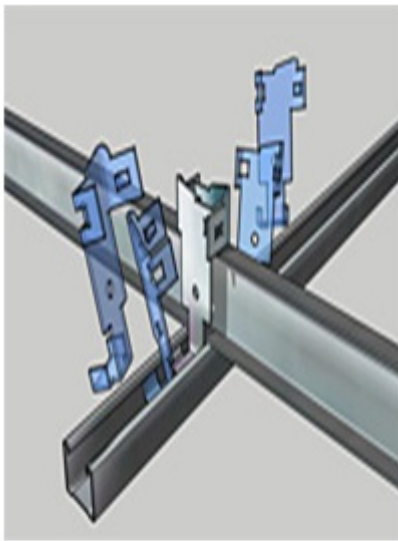

Figure 4: Attaching/Fastening a pair locking clip
- ① It consists of a simple material, with each pair containing two clips, and have a simple mechanism to fasten the receiver Joist.
- ② The interlocking is tight as the pair of clips clipped in each other (refer to Figure 4).